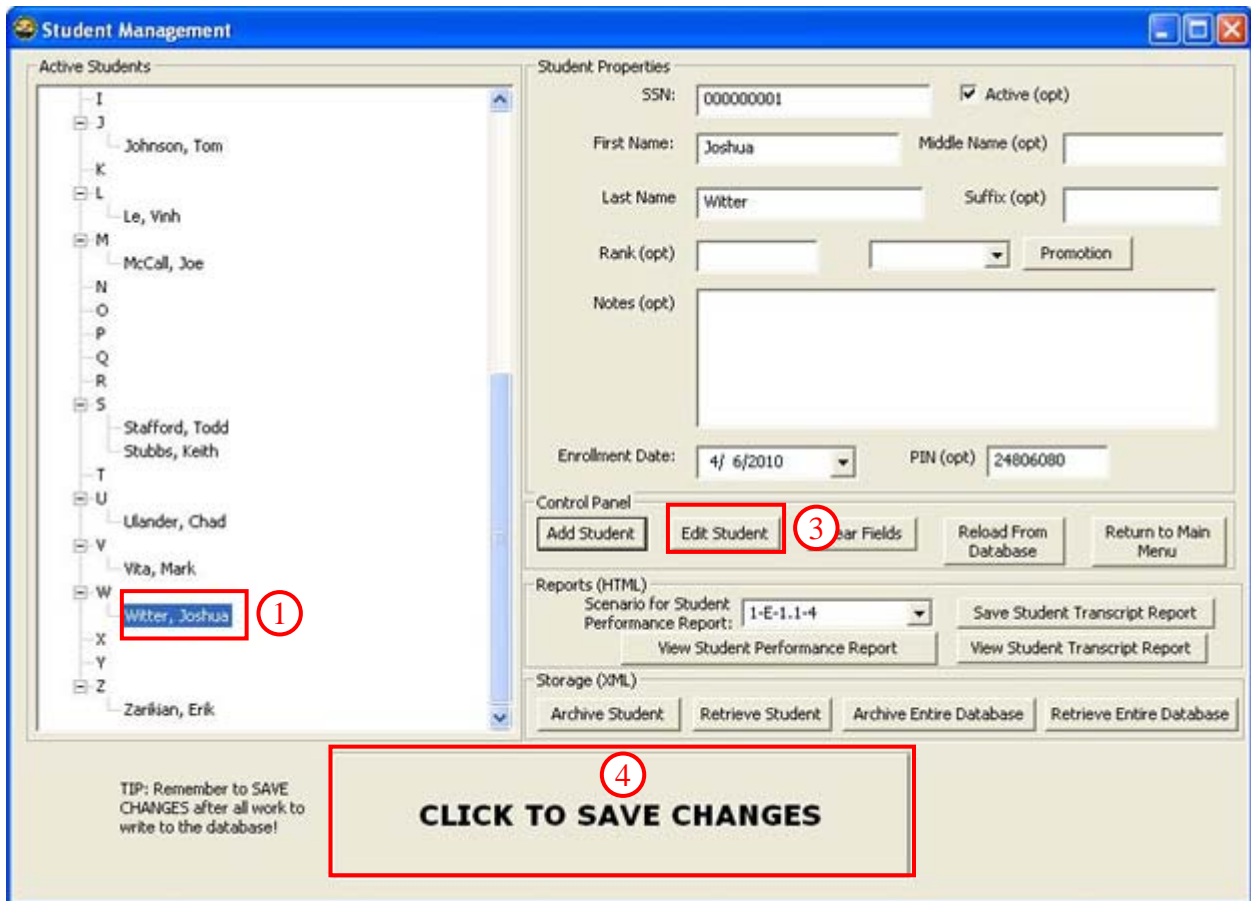

Figure 51. Student Management - Edit
1. Select a student from the Active Students list (Figure 51).